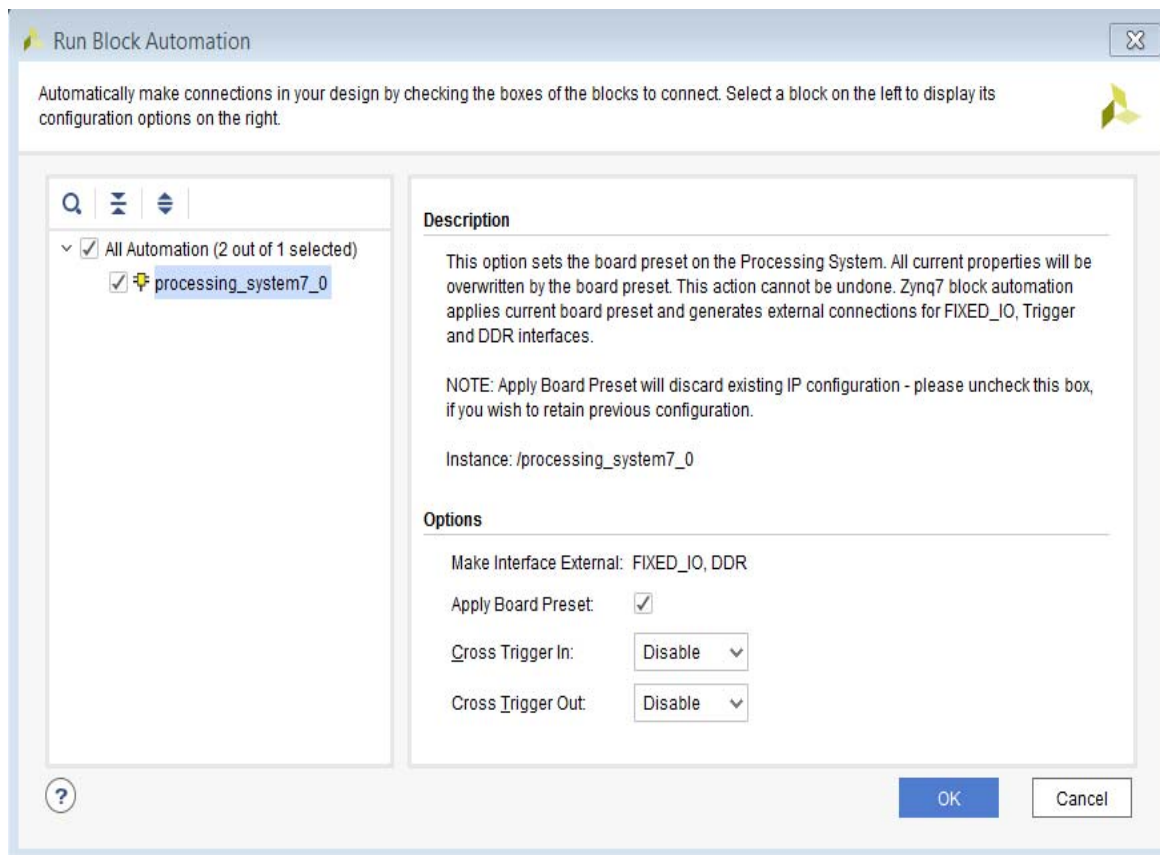

Figure 10-15: Run Automation
6. Click the **Run Block Automation** link under the title bar (Figure 10-15).
- b. Ensure **Apply Board Presets** is deselected. If this remains selected it re-applies the timers that were disabled in step 4 and results in additional ports on the Zynq block in Figure 10-15.